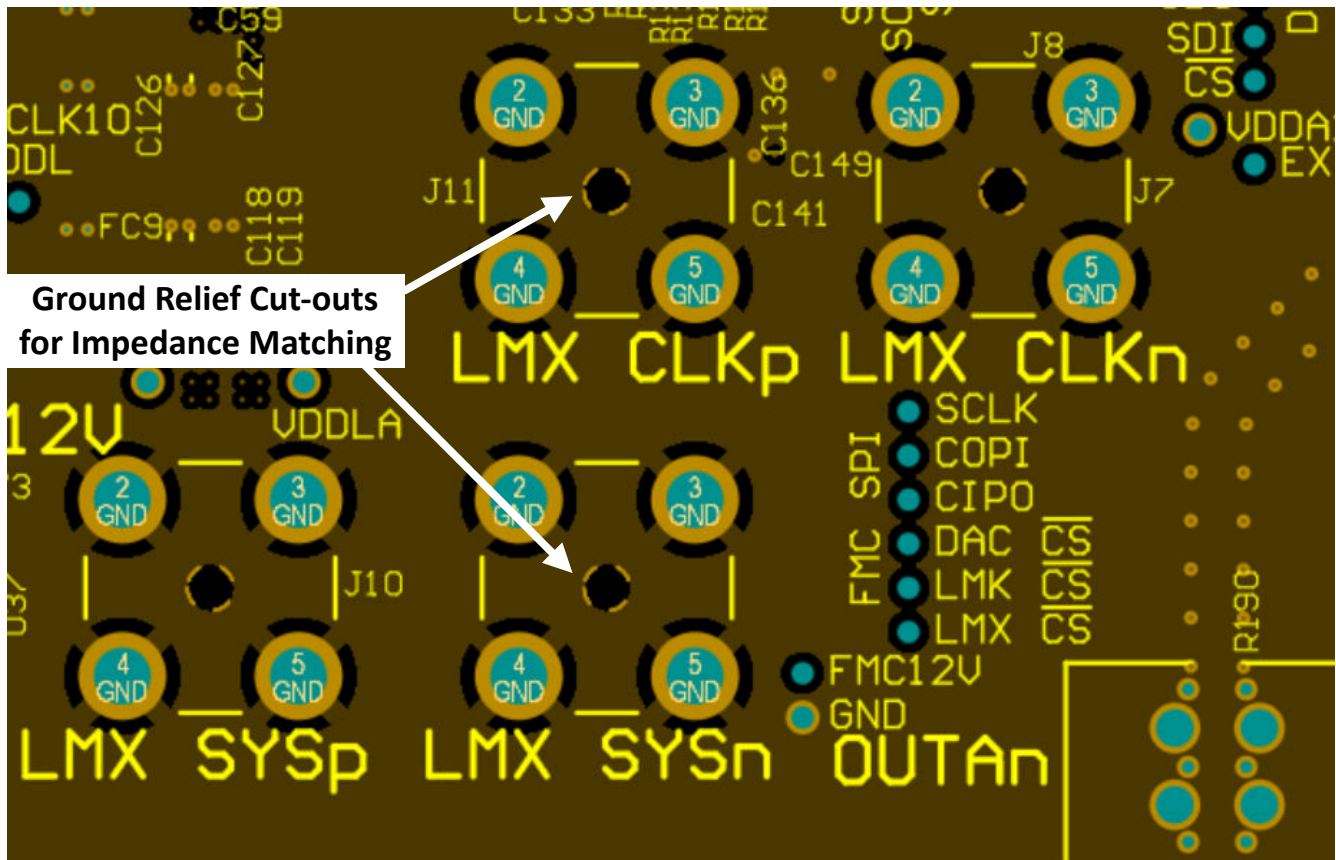

Figure 8-26. Ground Cut-out Below SMA Connector Center Pin
5. Incorporate any ground plane cutouts necessary at component landing pads, ie – SMA connectors, baluns, etc., to avoid impedance discontinuities at these locations. Cut-outs below these landing pads on one or multiple ground planes to achieve a pad size or stackup height that achieves the needed 50- Ω , single-ended impedance. See Figure 8-25 and Figure 8-26 as an examples.